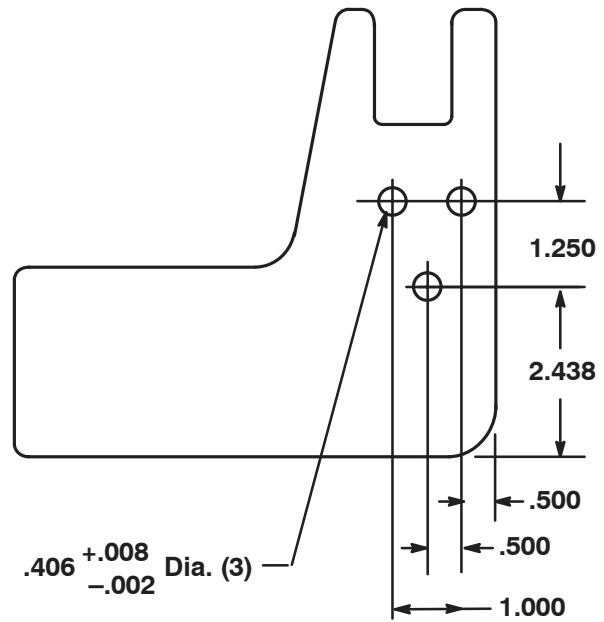

Figure 6
Note: If the rear cradle mounting holes are not in the lift arms, use the dimensions shown in Figure 6 to locate, mark, and drill the 3 holes (13/32 in. diameter) required in each lift arm.
- Slide the carrier frame onto the lift arms aligning the mounting holes. Secure each side of the carrier frame to the lift arms with 3 capscrews (1/2 x 1-1/2 in.). Torque the capscrews to 70–80 ft.-lb. (95–108 N-m) (Fig. 6).